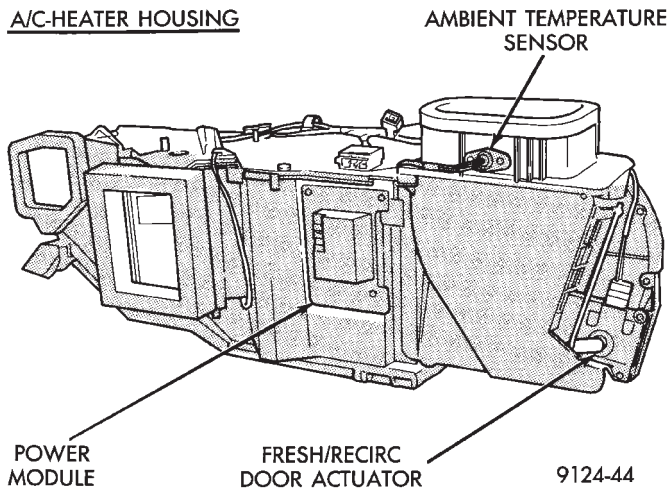

Fig. 4 Power Module—Ambient Temperature Sensor—Fresh/Recirc Door Actuator
The power module (PM) (Fig. 4) receives pulse width modulated logic signals from the computer control. The PM then supplies varied voltage to the blower motor ground circuit for different blower speeds based on the logic signal. The power module is not serviceable and must be replaced if found to be defective.
The fresh/recirc door actuator (Fig. 4) is an electric servo motor. It (with the use of linkage) mechanically positions the A/C unit door in the open or closed position. Actuation of the servo motor will occur when drive signals are supplied to the actuator from the computer control. This actuator does not contain a feedback strip therefore can not communicate the fresh/recirc door position back to the computer control. The fresh/recirc door actuator is not serviceable and must be replaced if found to be defective.